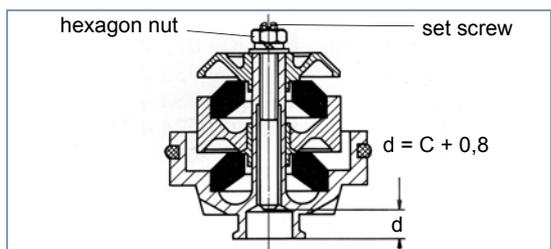

Fig. 5 Dimension d (Device with two rubber springs)
- i** The adjustment levels off also at devices with longer graduation travel (two rubber springs), see fig. 5.